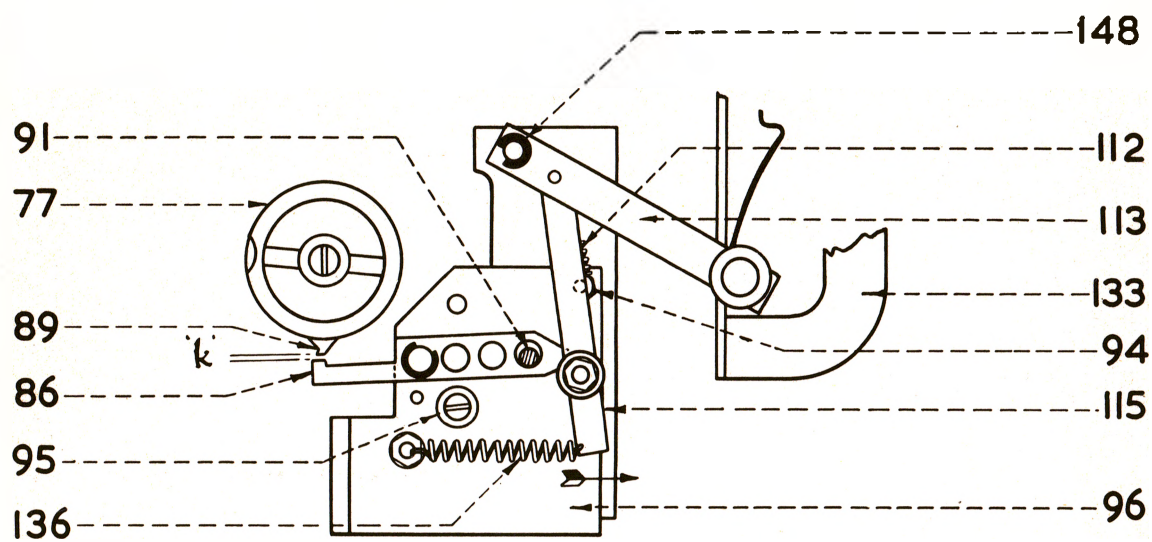

FIG. 10
29. Detent-mounting bracket, Fig. 10
30. Detent-operating arm, Figs. 10 and 11
- 35.7 If necessary, re-set cam plate (132) to permit the above adjustment to be done.
36. Detent operating lever, Fig. 10